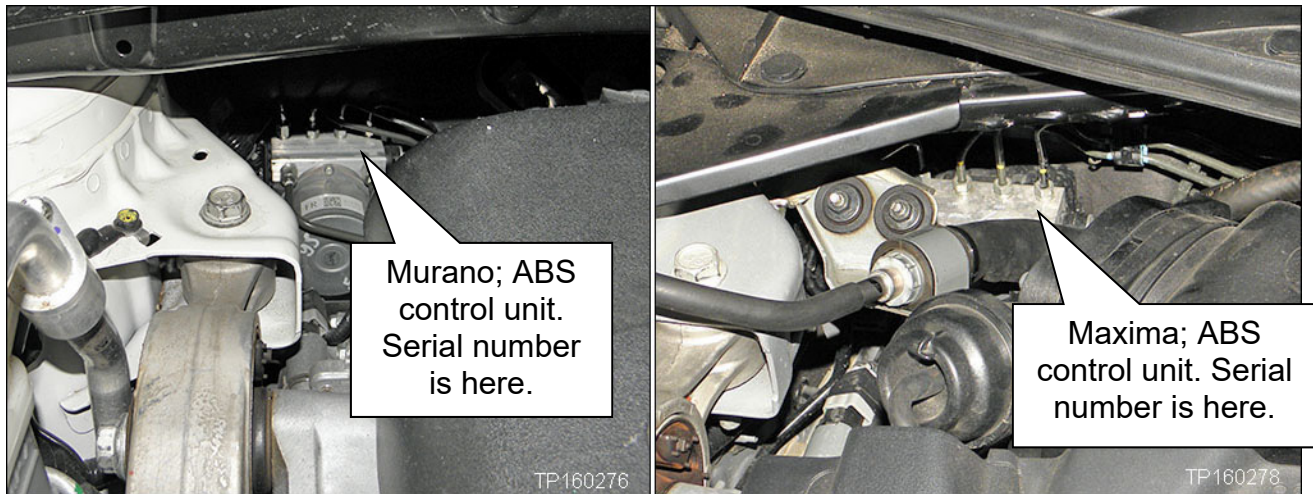

Figure 1A
2. Locate the serial number on the top of the ABS control unit next to the QR label (see Figures 1A - 3A).